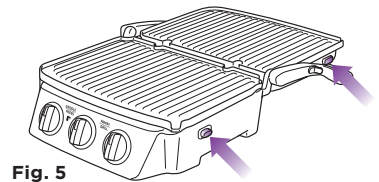

Fig. 5
- 2 Press the upper plate release button to remove the upper plate and lower plate release button to remove the lower plate. (Fig. 5)